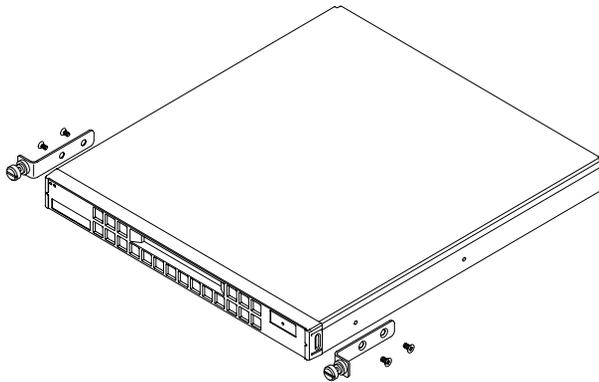

FIGURE 4-3 Removing the Rack Mount Brackets
3. **Remove the rack mount brackets from the side of the system (see FIGURE 4-3).**